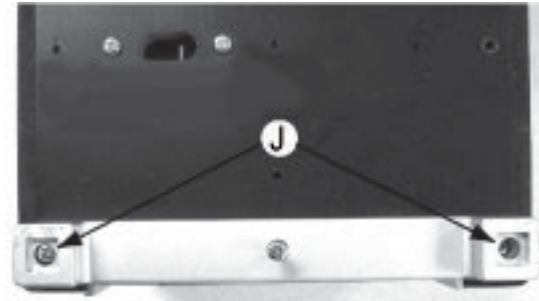

Figure 7
- 2) Loosen 4 screws J to remove two subwoofer feet on the bottom of the subwoofer as shown in Figure 7.
- 4) Loosen 10 screws L to remove subwoofer bottom cover as shown in Figure 7.